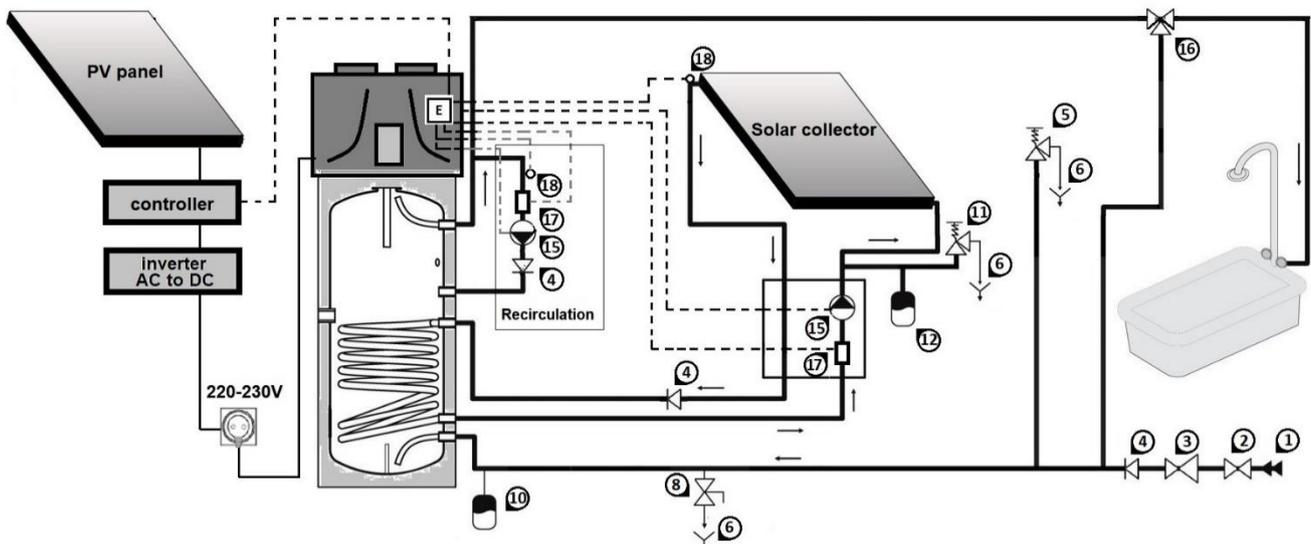
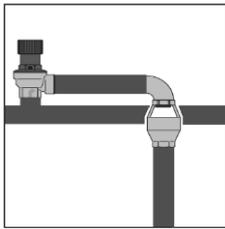

Fig. 8 Connections to the water supply net and solar collector
Fig 8a
The following illustration (Fig. 8) shows an example of a water supply connection.
- **Plastic pipes (PP) are permeable to oxygen. It is forbidden to connect the heat exchanger to system made by PP pipes as well as to open circulation system! Abusing this rule will lead to corrosion inside tube.**
- **It is obligatory for the system installer to fit an 8-bar safety valve No5 on the cold water intake pipe (Fig. 8).**
The safety equipment for protection against over pressure must be operated regularly in order to remove limescale deposits and to check that it is not blocked (Fig. 8)
The drain pipe No6, connected to the safety valve must be installed sloping continuously downwards and, in a place, where it is protected against the formation of ice (Fig. 8). Using a tundish is obligatory (Fig.8a)
An expansion vessel No10 (Fig.8) should be installed in order to absorb water expansion due to temperature variation. Pressure regulator No3 and expansion vessel should be calculated together by qualified person.
WARNING! The heat pump for the production of domestic hot water is capable of heating water up to more than 65°C. For this reason, as a protection against burns, it is necessary to install an automatic thermostat mixing equipment No16 to the hot waterpipe (Fig. 8)
Fill the boiler by opening inlet tap No2 (Fig. 8) and the tap hot water of your bathroom. The tank is fully filled with water, when only water without air starts leaking trough the tap in the bathroom. Check that there are no leaks from gaskets and connections. Tighten the bolts or connections where necessary;